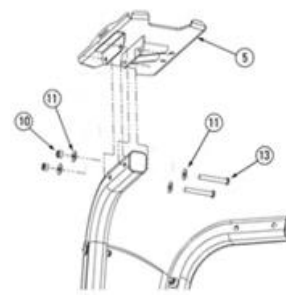

Fig. 5
Secure the left dumbbell platform (5) to left stand leg (4) using the hardware shown in figure 5.